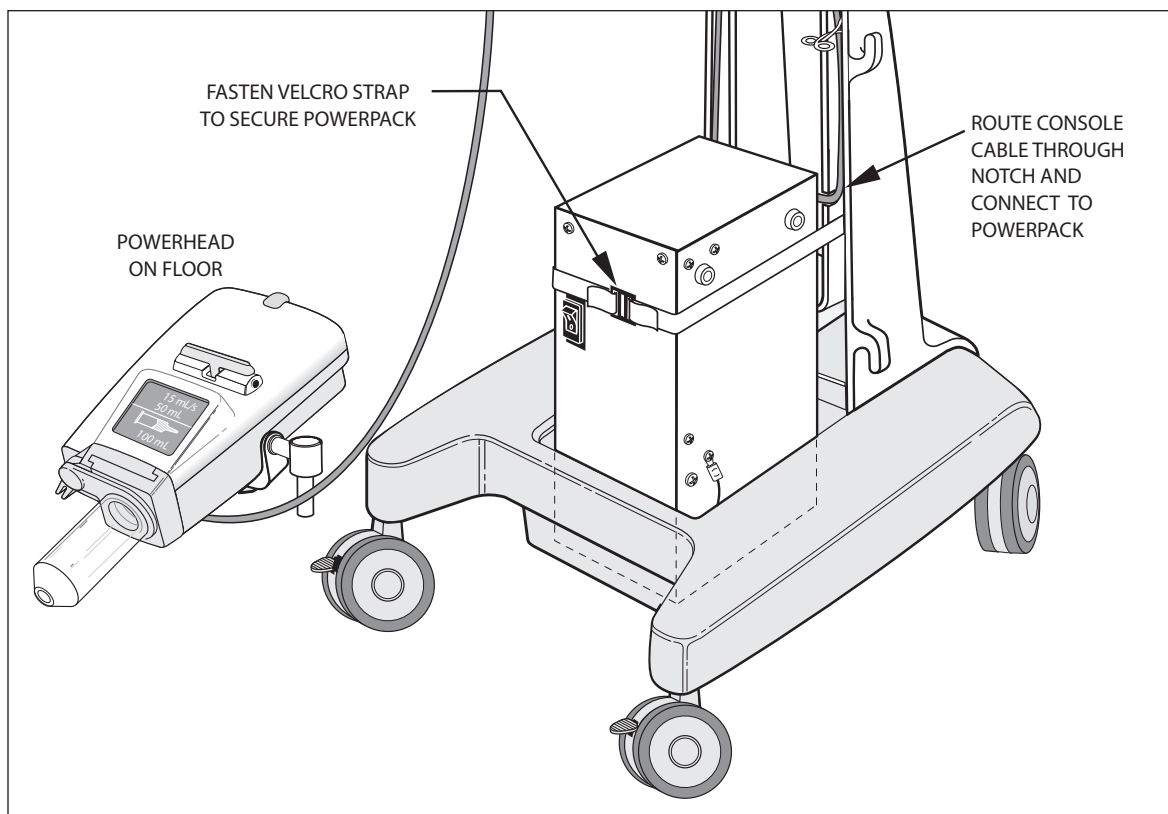

Figure 2-4-3 Securing the Powerpack
5. Secure the powerpack to the pedestal with velcro strap as shown in Figure 2-4-3.